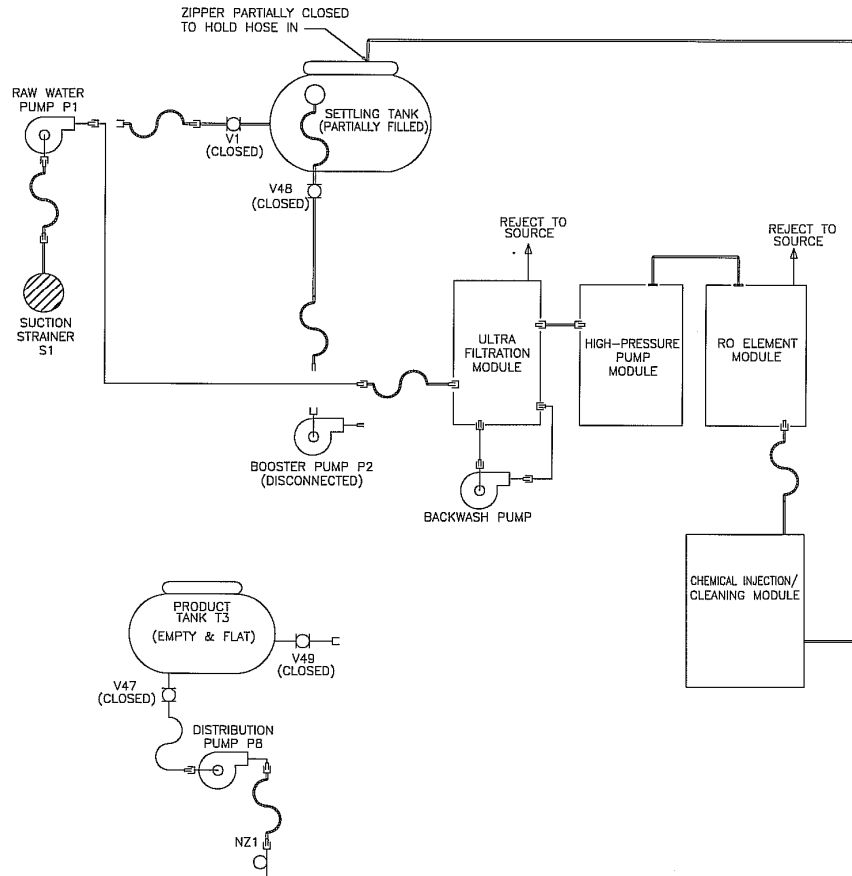

Figure 1. Layout for the First Pass.
1. The procedure begins after the LWP has been shutdown, de-energized, the settling and product water tanks drained, and the LWP configured in the normal operating mode. The settling tank must be located close enough to the RO module so that it can be filled with product water. Refer to Figure 1 as a guide in performing the procedures for setup and operation of the first pass.